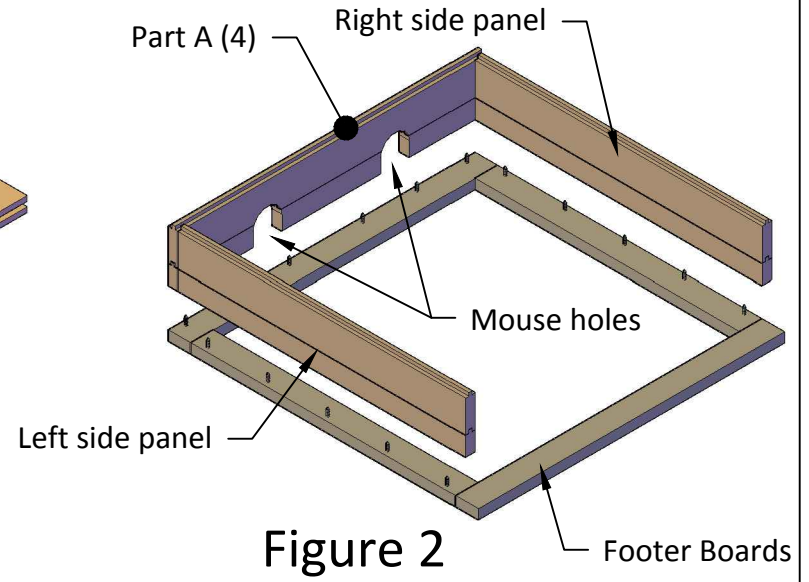

Figure 2
- The 2x4 footer boards lay flat on the ground and are attached to a corresponding Part A Assembly such that the outer edge of the footer board is flush with the outer side wall of the Micro-Bin. As a result, the footer boards extend roughly 2-inches toward the inside of the bin (Fig. 2, Sheet 8).